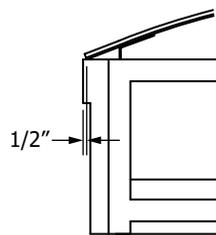

Figure 13-3
3) **Figure 13-3.** Position trough 1/2" from outside edge of trailer on both sides and clamp in place.